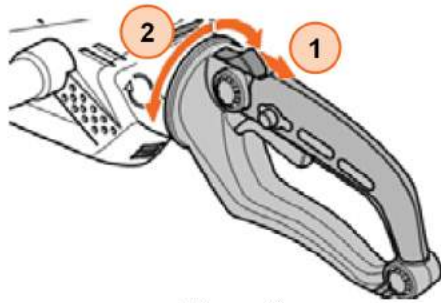

Figure 3
Depending on the planned use the rear handle can be rotated from the middle position by 90° in either direction (see Figure 3). Press the release button downwards ① and simultaneously rotate the rear handle to the left or right ② until it clicks.